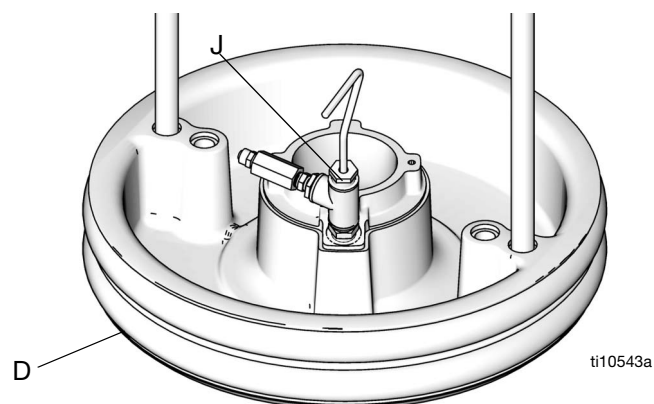
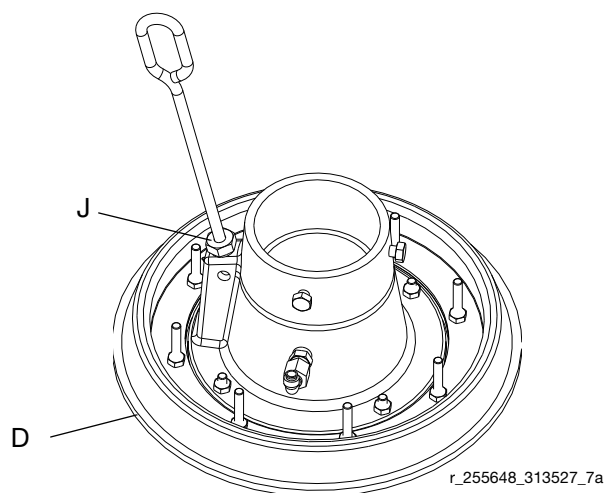

FIG. 17: D200 and D200s 6.5 in. Dual Post
FIG. 18: S20 and D60 3 in. Single Post
8. Inspect platen seals (D) for damage and lubricate with grease or other lubricant compatible with the fluid to be pumped. See FIG. 17 and FIG. 18.
12. Put a full drum of material on the ram base, slide it back against the drum stops, and center it under the platen (D). Drum styles vary, so the drum may not be perfectly centered when positioned against the drum stops. An optional drum roller kit is available for D200 and D200s supply systems to make it easier to load the drum on the base. Order Kit 255627.
14. Remove bleed stick from platen bleed port (J).